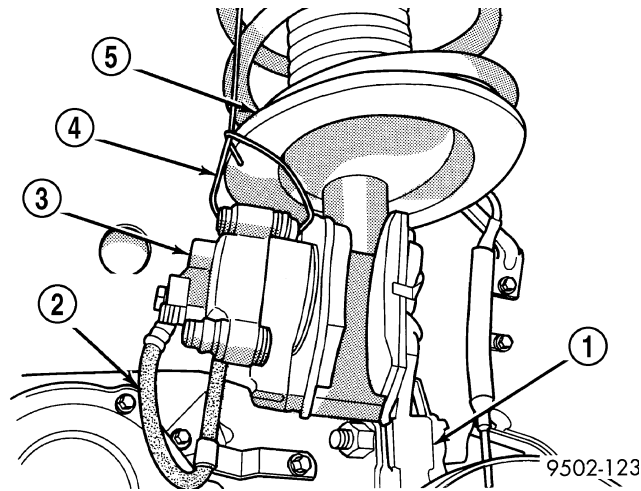

Fig. 2 Properly Supported Disc Brake Caliper - Typical
6. Support the disc brake caliper assembly by using a wire hook and suspending it from the strut assembly (Fig. 2).